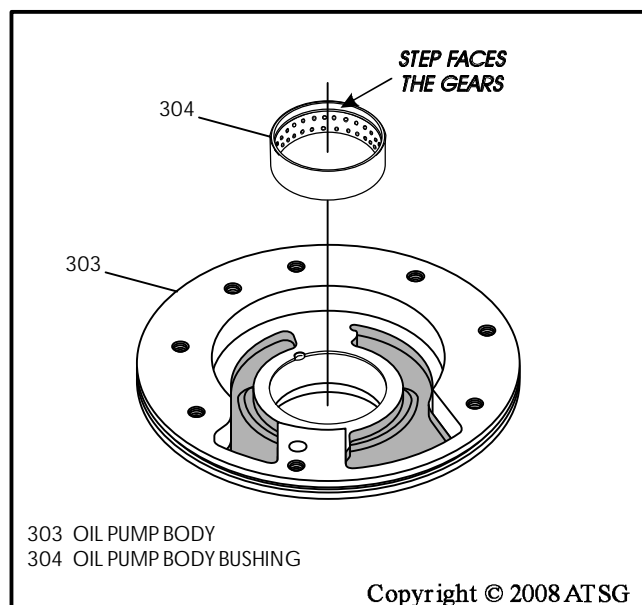

Figure 148
9. Install new pump body bushing as necessary, as shown in Figure 148, using proper driver.
- Note: Step on inside diameter of the bushing faces the gears, as shown in Figure 148.**